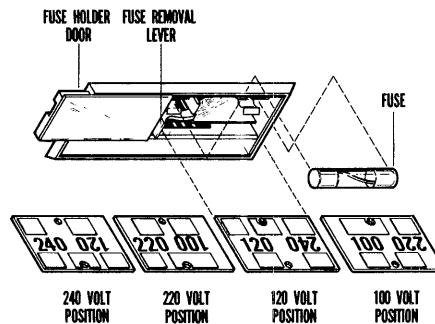

Fig. 2-3 Power Switching Card
1. Slide the plastic shield at the main power socket to the left. Remove the voltage switching card. This card is designed for four primary voltages as shown in Figure 2-3. Make sure the card is inserted correctly for your line voltage. The card must be inserted so you can read your voltage with the card in the slot. Plug the card back into the slot.